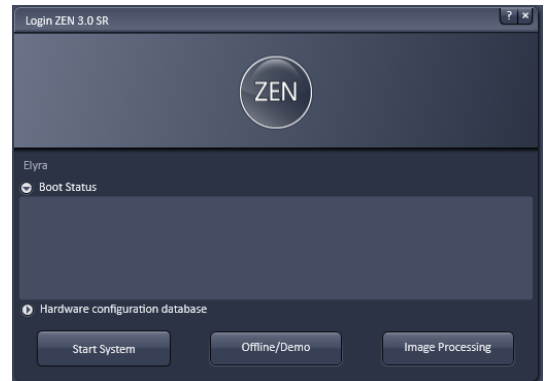

Fig. 11 Starting the ZEN software – The Login "ZEN" dialog with Boot Status field expanded
A third option, **Offline/Demo**, becomes available (Fig. 11), once the **Boot Status** field is expanded by pressing the **expansion** symbol (triangle).
- **Start System** for system control, data / image acquisition / recording and analysis. The whole microscope system will be initialized. The progress of the boot process will be displayed by the blue time tab. During booting the status of the system will be displayed in the **Boot Status** window and the single components will be listed which have been or are currently being checked during the boot process (Fig. 11).